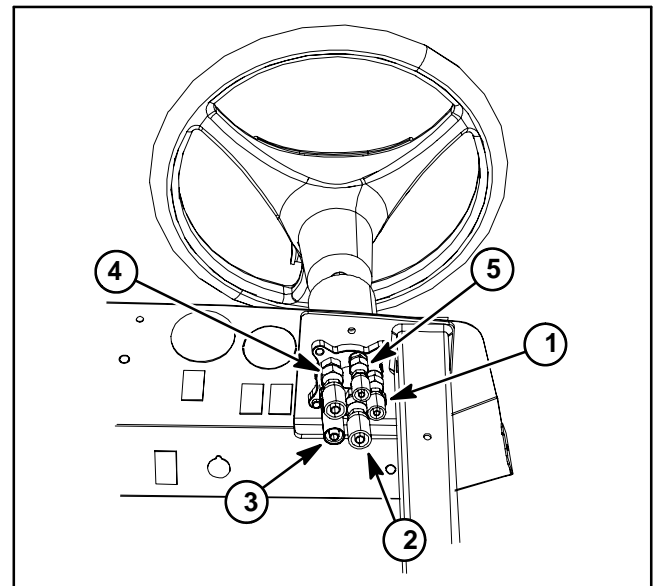

Figure 65
5. Loosen and remove four (4) cap screws that secure steering control valve to machine frame.
8. Disconnect hydraulic hoses connected to the steering control valve (Fig. 65). Allow hoses to drain into a suitable container. Cap or plug openings of control valve and hoses to prevent contamination.
2. Using labels placed during control valve removal, lubricate new O-rings and connect hydraulic hoses to steering control valve (Fig. 65). Tighten hose connections (see Hydraulic Hose and Tube Installation in the General Information section of this chapter).
3. Slide steering control valve (with hydraulic hoses attached) into frame opening. Secure control valve to frame with four (4) cap screws.